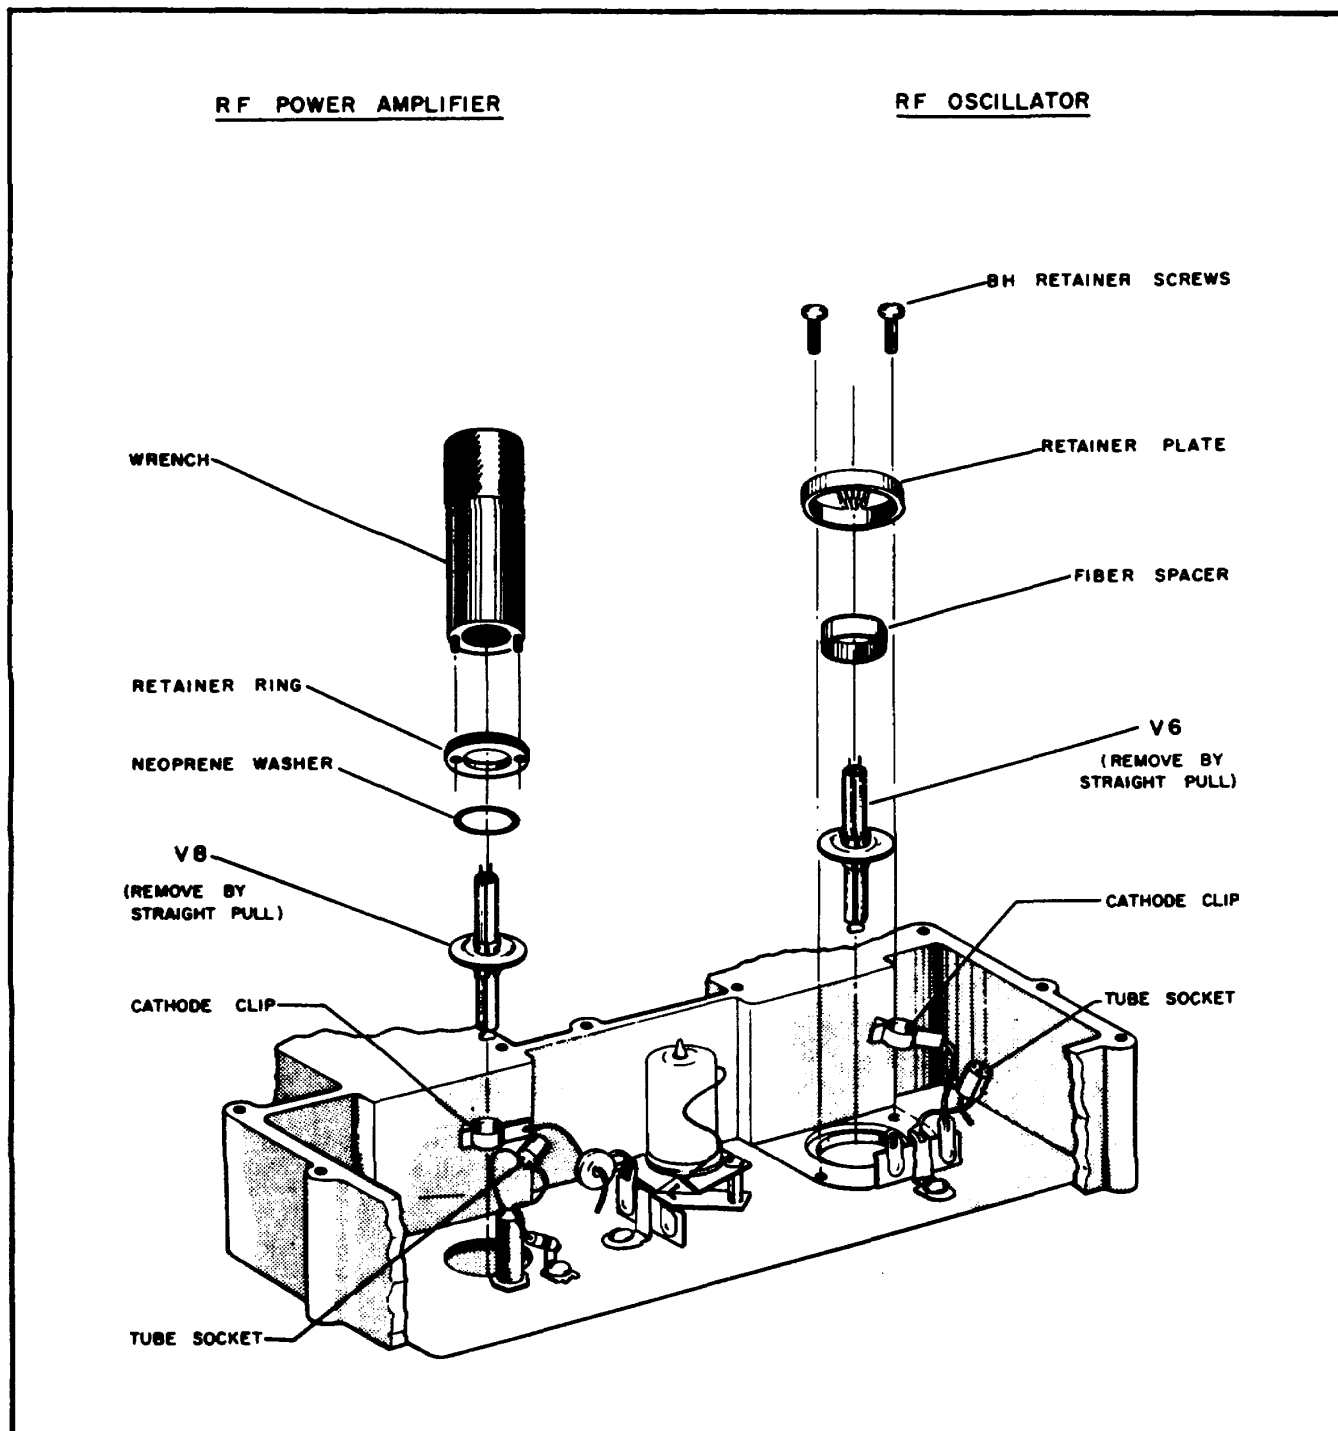

Figure 6-2. Exploded View for Replacement of R-F Oscillator and Amplifier Tubes
- The oscillator and amplifier tubes V6 and V8 are removed as shown in Figure 6-2.